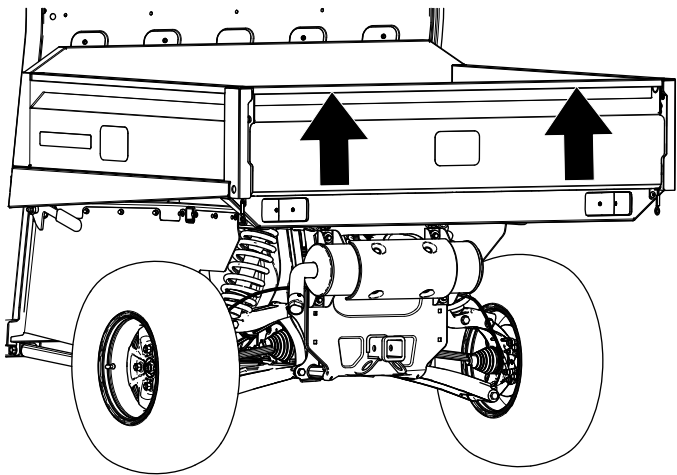

Figure 43
2. Using both hands, raise the tailgate using the ridge near the top of the tailgate (Figure 43).